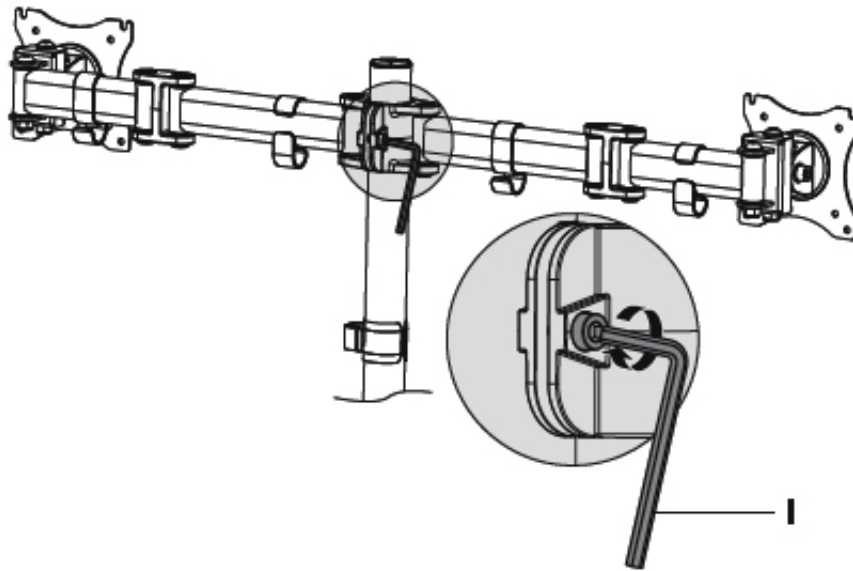

Figure 9
1. Adjust the VESA Plate with Arm height. Loosen the clamp bolt using the 5mm Allen Key (I) and move the VESA Plate with Arm to the desired viewing position. Tighten the clamp bolt to secure the VESA Plate with Arm, see **Figure 9**.